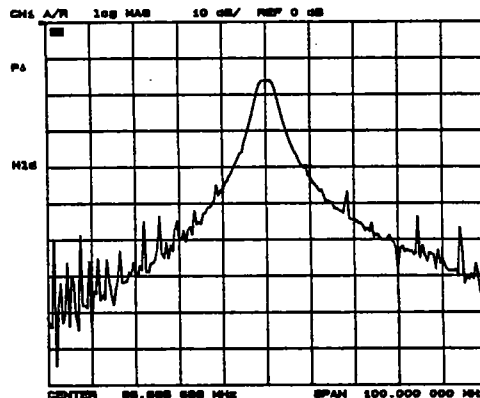

Figure 3-117. Example of Source First IF Converter 86.6 MHz BPF Adjustment
8. Adjust A43L4 and L5 until the BPF center frequency is at 86.6 MHz, and the insertion loss is minimum as shown in Figure 3-117.